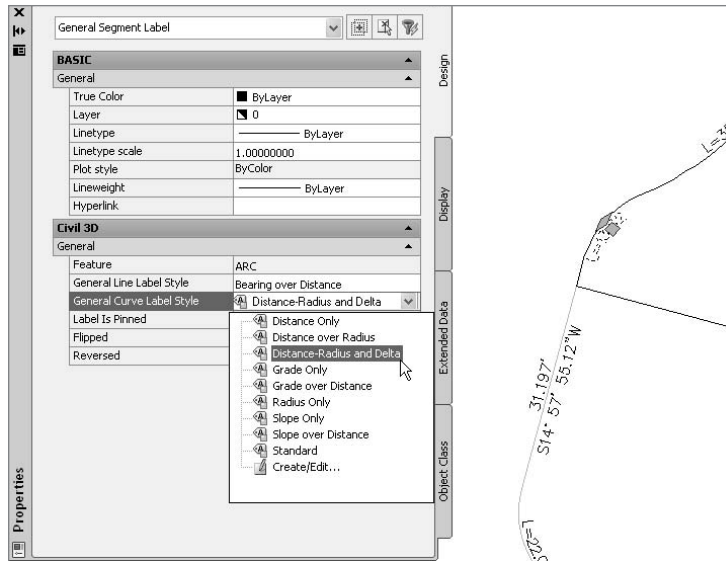

Figure 3.12
7. In the Civil 3D section, click in the whitespace next to the General Curve Label Style entry. A pull-down menu appears (see Figure 3.12). Choose Distance-Radius and Delta. If you have trouble working with the AutoCAD properties dialog, right-click on the spine of the dialog and disallow Autohide.